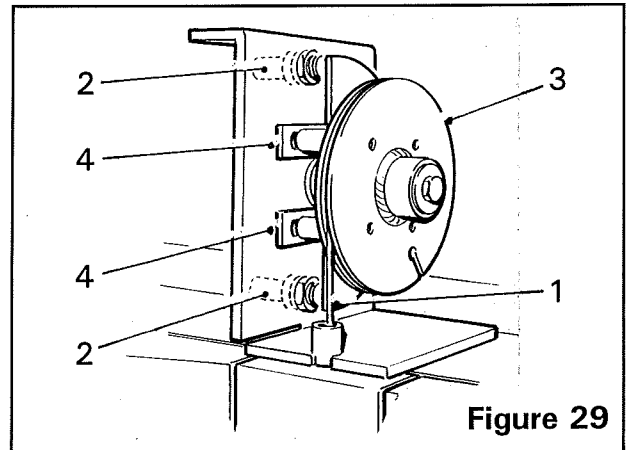

Figure 29
Should the cable (item 1, figure 29) become slack, then the axle will centre from either side to a right hand bias. To correct the centre position, the cable can be retensioned by means of the cable adjuster on the axle ram mounting.
The setting of the proximity switches (*item 2, figure 29*) in the position indicator will only need adjusting if the unit has been dismantled for any reason and should be carried out by a competent service engineer.
2. Remove the guard and check that the cable wheel (*item 3, figure 29*) is in the vertical position as indicated by the coloured arrow.
7. With an assistant holding down the self-centre button on the control box, both light bands on the proximity switches (*item 2, figure 29*) should be off.
8. Keeping the self-centre button held down, release the switch plates (*item 4, figure 29*) by slackening the bolts.